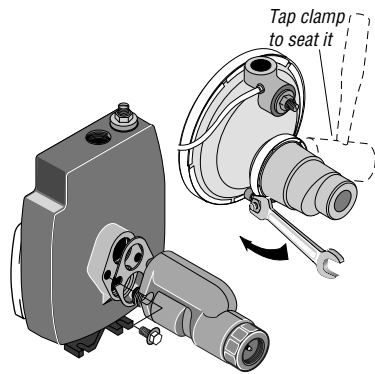

Figure 8: Install Ejector
2. Install ejector kit FP4855 or kit FP4875 (kits are sold separately). Follow the instructions provided with the kit. Align the venturi with the top hole on the front of the pump (see Figure 8).